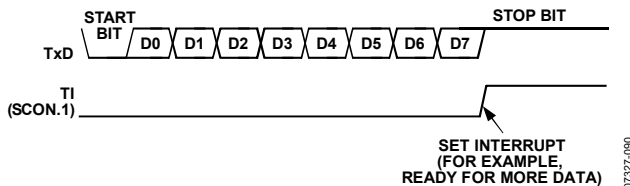

Figure 90. 8-Bit Variable Baud Rate
Transmission is initiated by a write to the Serial Port Buffer SFR (SBUF, 0x99). Next, a stop bit (1) is loaded into the ninth bit position of the transmit shift register. The data is output bit by bit until the stop bit appears on TxD and the transmit interrupt flag (TI) is automatically set as shown in Figure 90.